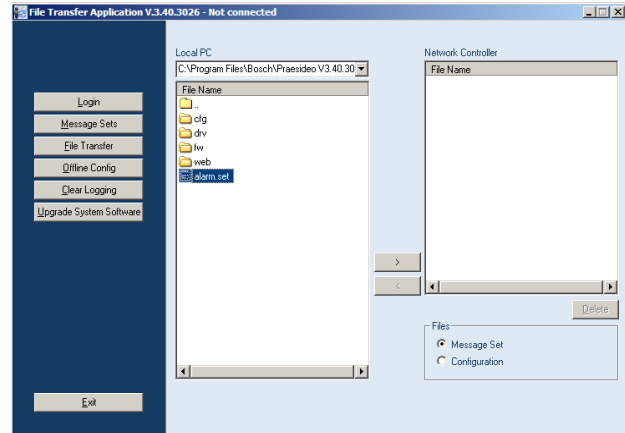

figure 44.10: Transferring a message set
- 1 In the *File Transfer* application, first log in and then click the *File Transfer* button. A screen similar to the one in figure 44.10 appears.